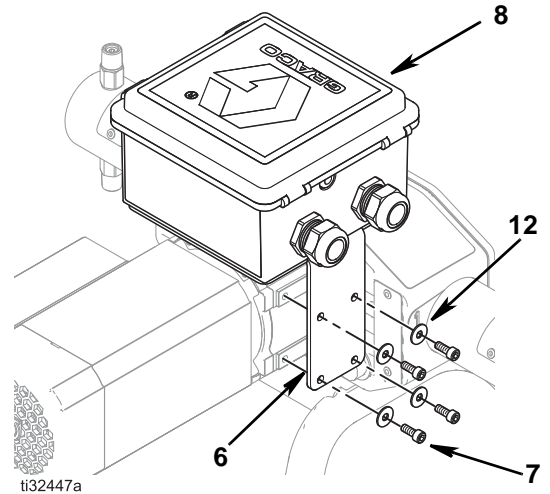

FIG. 11 Attach pump mounting bracket
3. Place the mounting bracket (6), with attached controller (8), on the side of the motor and secure with supplied screws (7) and washers (12). See FIG. 11.